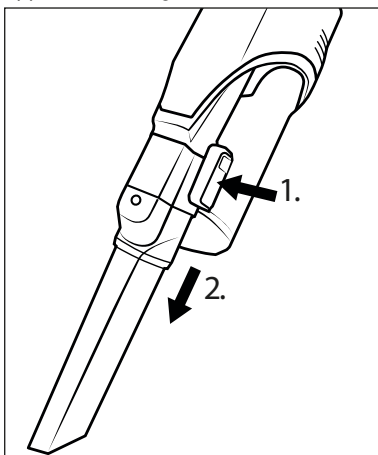

Fig. 15
- ♦ To remove the accessory, press and hold the release button on the accessory, then pull the accessory off the suction pipe **24** or the suction opening of the appliance (see Fig. 15).